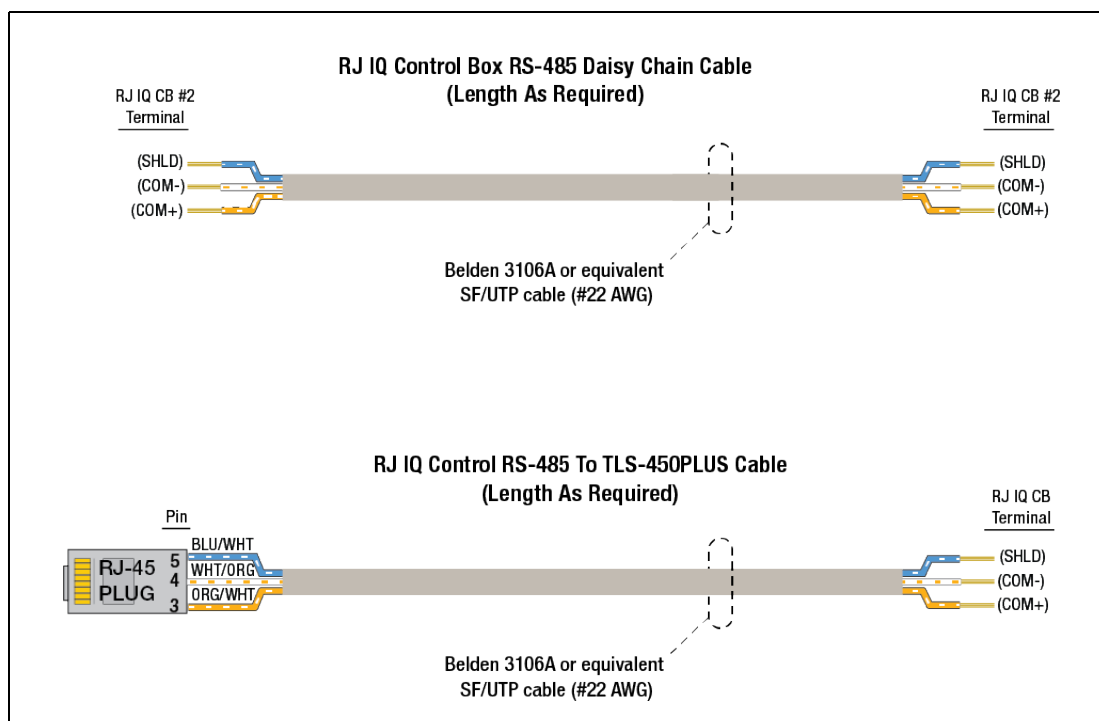

Figure A-2. Example IQ Control Box Comm Wiring Example (Belden 3106A Cable Shown)
7. Run completed RS-485 cables from the TLS-450PLUS to the first IQ Control Box in a daisy chain (see Figure A-2) and between IQ Control Boxes, but do not connect the comm cables to the IQ Control Boxes or to the TLS-450PLUS at this time.